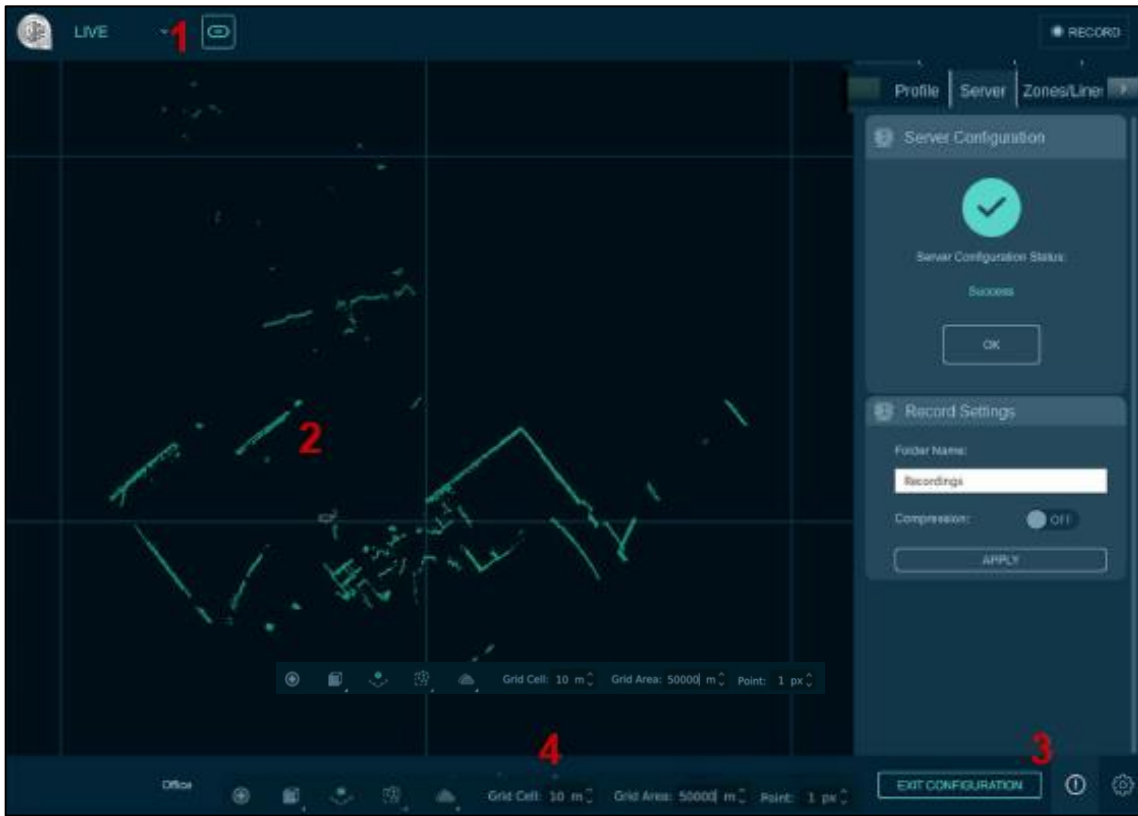

Figure 67. Visualize Single-Sensor LIVE Data
- For a sample visualization of single-sensor `settings.xml` file output, see Figure 67. Visualize Single-Sensor LIVE Data.